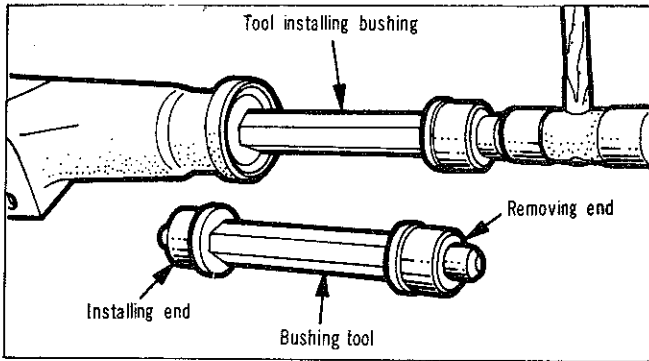
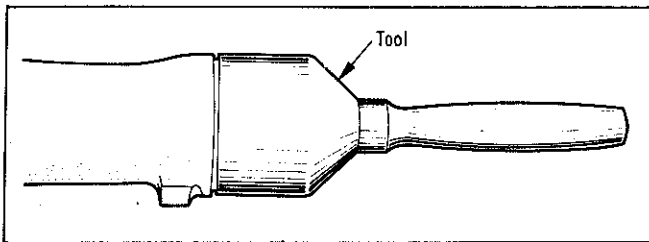

Fig. 23—Replacing extension housing bushing
Fig. 24—Installing extension housing yoke seal
(2) Press or drive out bushing with Tool E21C50E (Fig. 23).
(3) Slide a new bushing on installing end of Tool E21C50E. Align oil hole in bushing with oil slot in the housing, then press or drive bushing into place.
(4) Position a new seal in opening of the extension housing and drive it into housing with Tool E21C50C (Fig. 24).